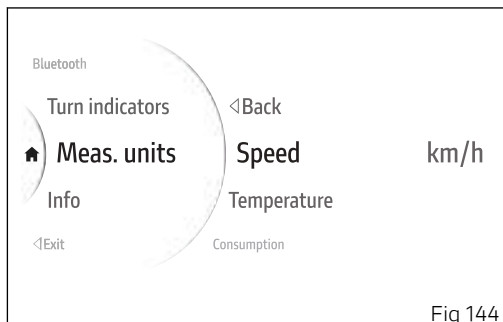

Fig 144
- Use buttons (1) and (2) from the Interactive Menu to select the "Setting menu" item and press ENTER (3).
- Select the "Measurement Units" item and press ENTER (3).
- Select the "Speed" item and press ENTER (3) (Fig 144).